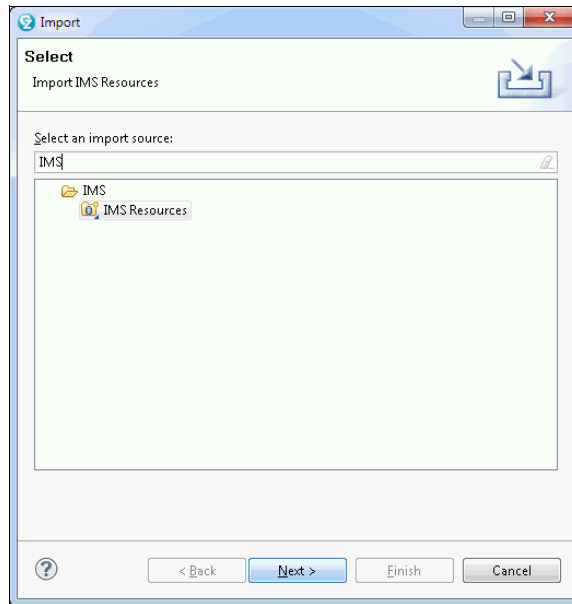

Figure 8-20 Select an import source
2. Select the **IMS Resources** option, and click **Next**, as shown in Figure 8-20.